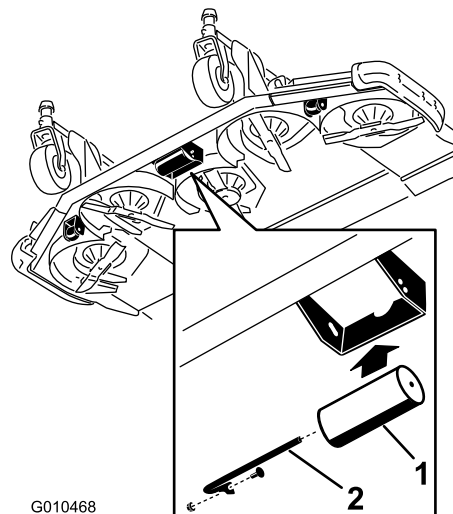

Figure 31
2. Slide the shaft out of the lower bracket holes, align the roller with the top holes, and install the shaft (Figure 31).